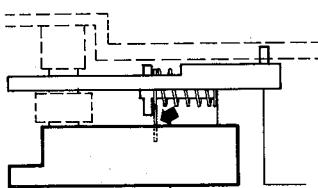

Fig. 5-10
7) As shown in Fig. 5-10, there is a little hole in the clutch lever and one side of spring which hooks on to the start lever goes into the hole. So the clutch lever moves in the same direction as the start lever when on start/cut.